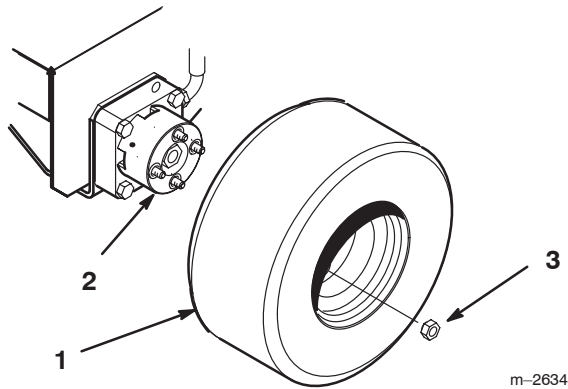

Figure 2
1. Mount wheels to wheel motor hubs with 8 lug nuts (Figure 2). Torque bolts to 55 ft-lb (75 N·m).